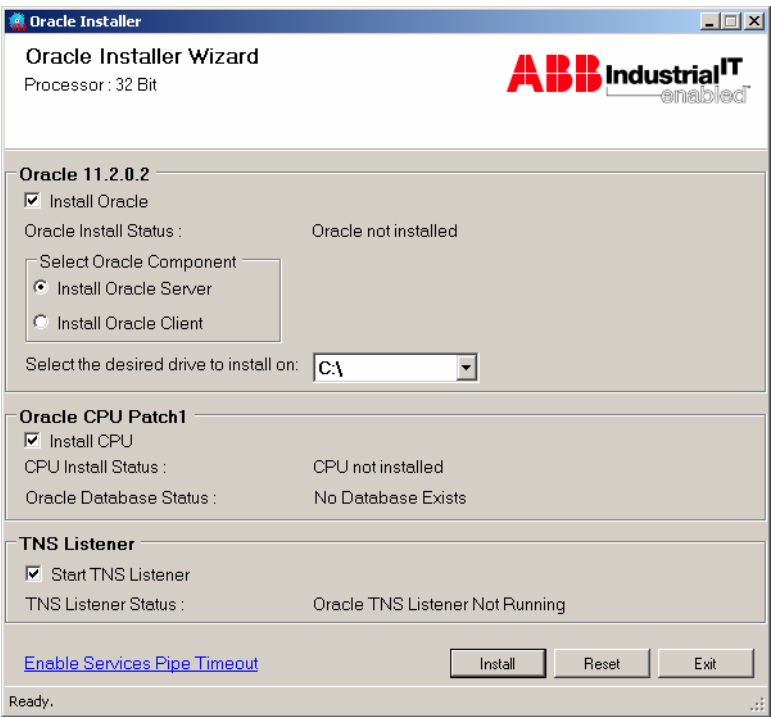

Figure 11. Oracle Installer Wizard
4. The Oracle Installer Wizard (Figure 11) containing the following components appears:
The Oracle Server, CPU, and TNS Listener are enabled for installation, by default. The status for the Oracle components is displayed as shown in Figure 11 for a fresh installation.